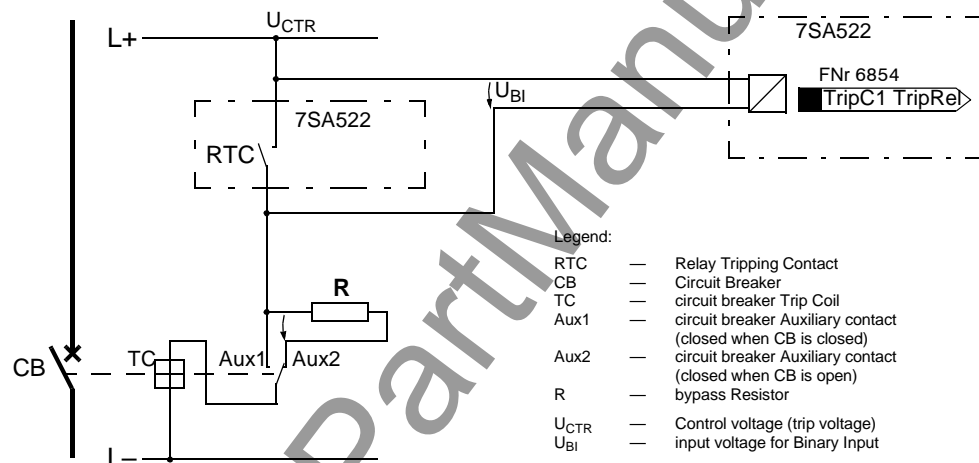

Figure 8-6 Trip circuit supervision with one binary input – example for trip circuit
If *one* binary input is used, a bypass resistor R must be employed (refer to Figure 8-6). This resistor R is connected in series with the second circuit breaker auxiliary contact (Aux2), to also allow the detection of a trip circuit failure when the circuit breaker auxiliary contact 1 (Aux1) is open, and the command relay contact has reset. The value of this resistor must be such that in the circuit breaker open condition (therefore Aux1 is open and Aux2 is closed) the circuit breaker trip coil (TC) is no longer picked up and binary input (BI1) is still picked up if the command relay contact is open.